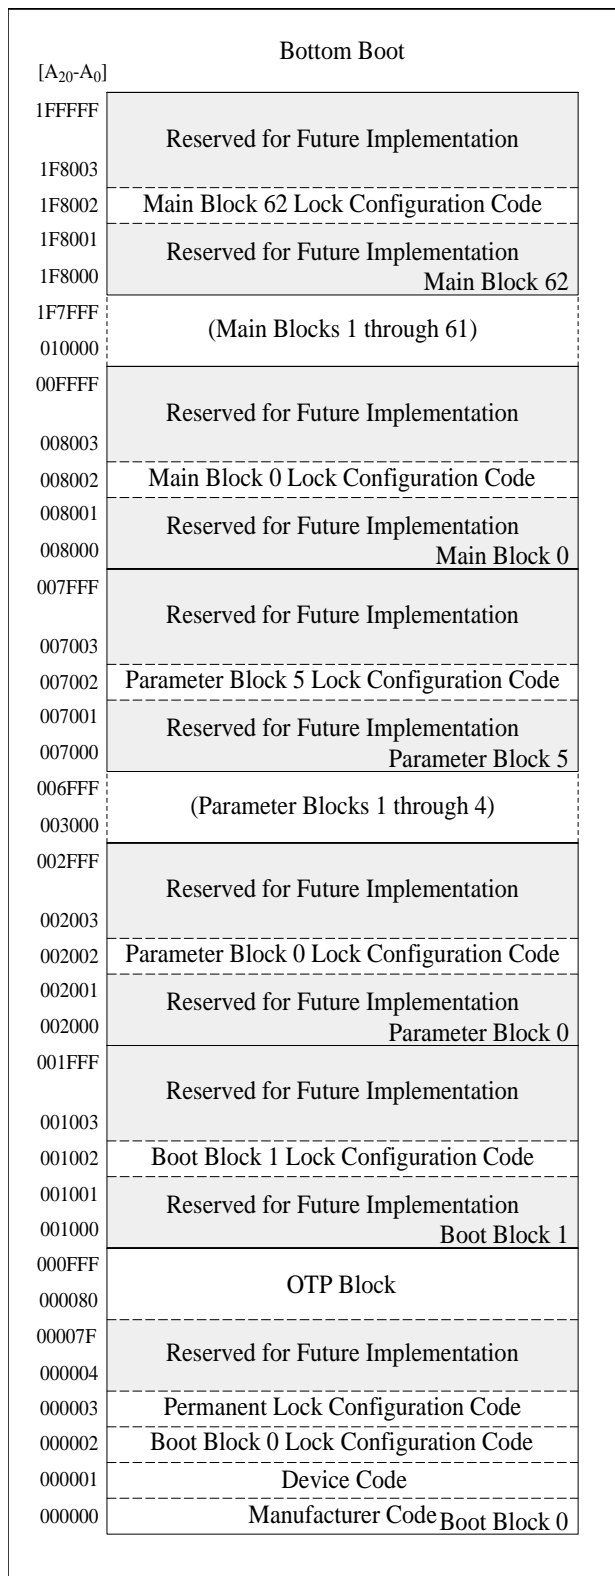

Figure 4. Device Identifier Code Memory Map
The read identifier codes operation outputs the manufacturer code, device code, block lock configuration codes for each block and the permanent lock configuration code (see Figure 4). Using the manufacturer and device codes, the system CPU can automatically match the device with its proper algorithms. The block lock and permanent lock configuration codes identify locked and unlocked blocks and permanent lock-bit setting.
IA=Identifier Code Address: see Figure 4.
The identifier code operation is initiated by writing the Read Identifier Codes command. Following the command write, read cycles from addresses shown in Figure 4 retrieve the manufacturer, device, block lock configuration and permanent lock configuration codes (see Table 4 for identifier code values). To terminate the operation, write another valid command. Like the Read Array command, the Read Identifier Codes command functions independently of the V_{CCW} voltage and RP# can be V_{IH} . Following the Read Identifier Codes command, the following information can be read:
1. BA selects the specific block lock configuration code to be read. See Figure 4 for the device identifier code memory map.